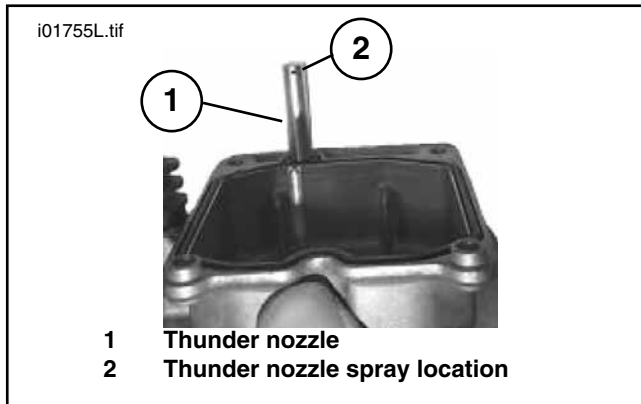

Figure 5. Stock Float Bowl and Thunder Nozzle Installed
2. See Figure 5 and Service Parts Illustration. Install the new check ball (12) and the new brass weight (13) into the float bowl. Press the new DYNOJET Thunder Nozzle (11) into the stock pump nozzle hole and lightly tap it into place with a soft hammer. The spray hole in the nozzle should face the brass float bowl drain tube.